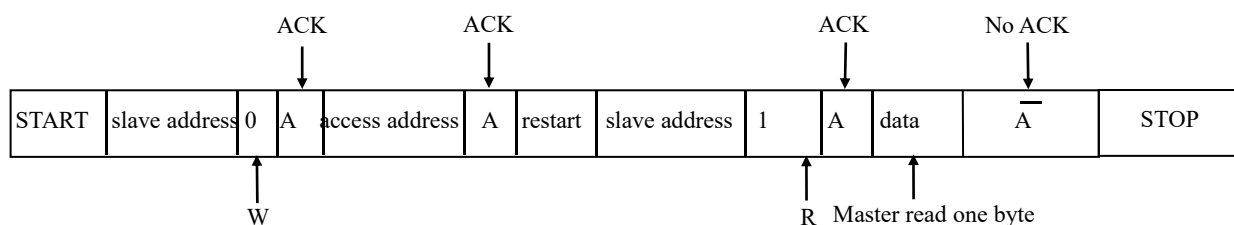

Figure 16-8 Master read one byte data from slave
As Figure 16-8 shown, master read one byte data from slave, first master sends a START signal, then follows a slave address, the 8th bit of the address is 0, it is indicates a write command to slave, the master wait slave give an acknowledge(A) at this time, when master received an acknowledge signal, send the address will be accessed, and wait slave give an acknowledge again, then master will change the communication mode(master changed from transmitter to receiver, slave changed from receiver to transmitter) after received an acknowledge. So master send a restart signal, then follows a slave address, the 8th bit is 1, it is indicates master has been set receive mode and start to receive data, this time master wait an acknowledge from slave, when master received acknowledge signal, then it can receive one byte data, when receive is completed, master send a no acknowledge signal, it is indicates receive end, master generates a stop signal, and end the transmission.